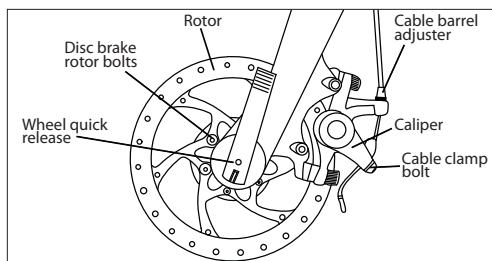

Fig. 18: Disc Brake
- Disc brake (Fig. 18)
Disc Brakes (Fig. 18):